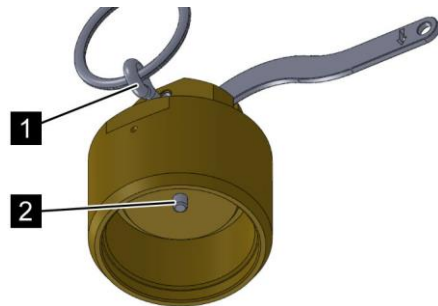

Fig. 93: Release and lock pin
2. Carefully press the release pin (Fig. 93/2) inward as far as possible.
3. Insert the lock pin (Fig. 93/1) into the manual release device.